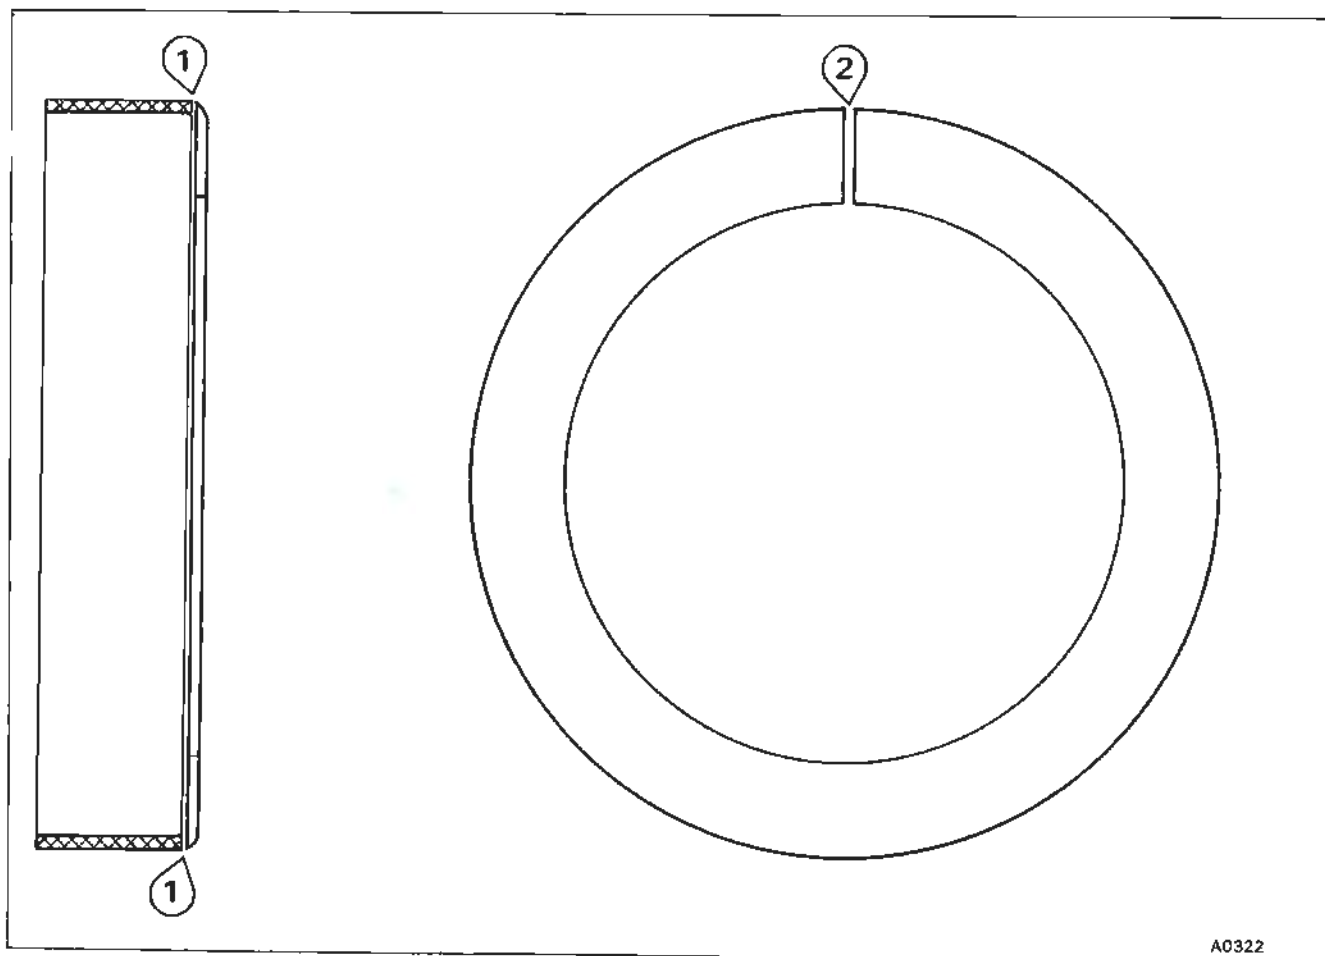

Fig. 1 Flexible Spring Seat
- 3 Obtain four flexible rear road spring seats (part number UR 20847) remove the rim, then cut the remaining flat circular washer as illustrated in figure 1, items 1 and 2.